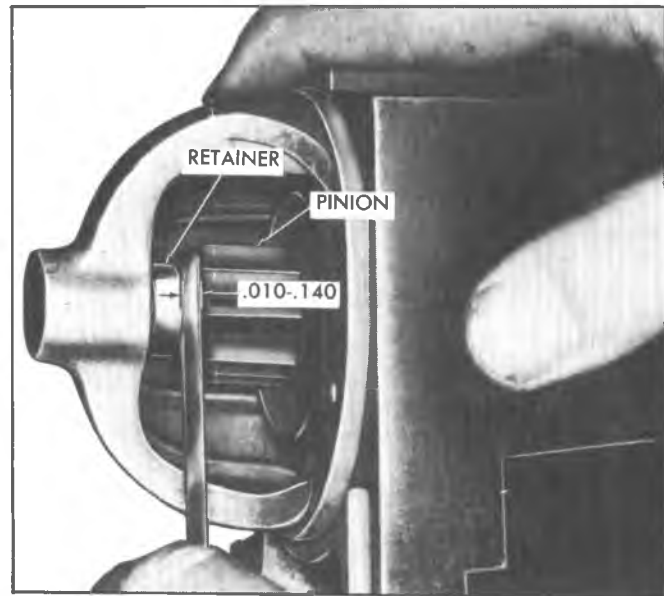

Fig. 12S-Checking Pinion Clearance
4. Measure the distance between the pinion and pinion stop (fig. 12S). If clearance is not within specified limits (.010-.140) it may indicate excessive wear of solenoid linkage shift lever yoke buttons or improper assembly of the shift lever mechanism. Worn or defective parts should be replaced.